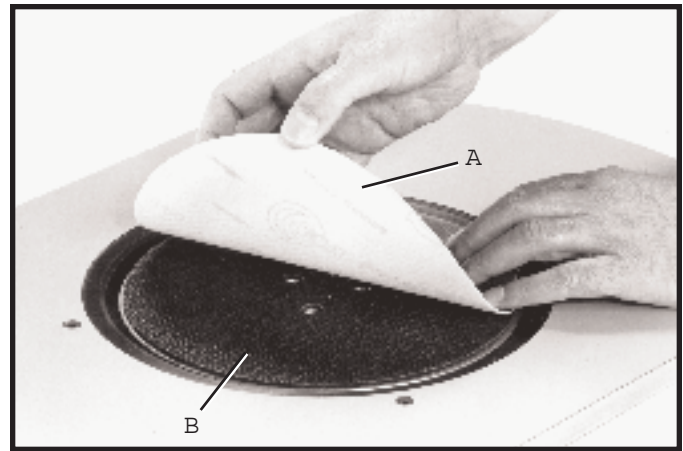

Fig. 4
If you are using the hook and loop backed abrasive disc, simply position hook and loop abrasive disc (A) Fig. 4, directly onto disc plate pad (B).